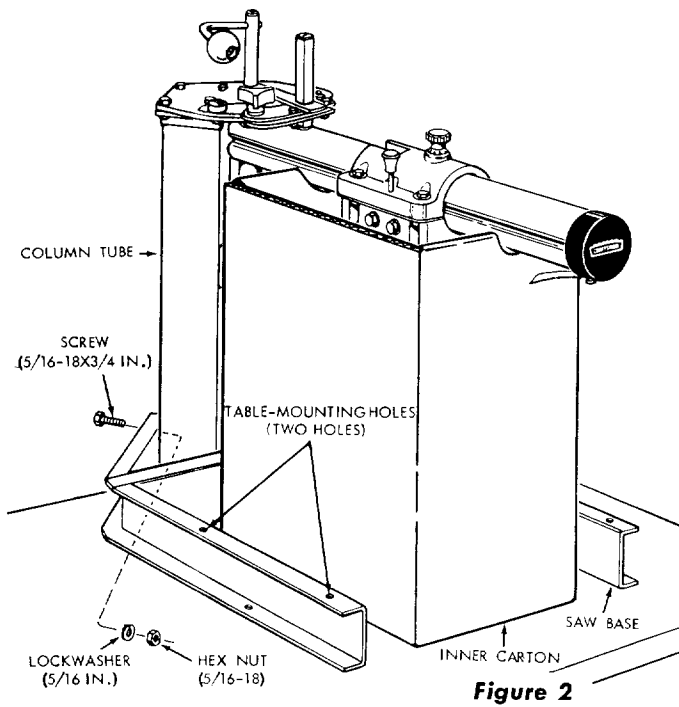

Figure 2
a. Set the saw base on a work bench or table, leaving the rear of base extending out over the edge of the bench. (See figure 2.) Make sure the base is positioned so the two front table attaching holes are up, as shown in figure 2.
b. Set the basic saw assembly, **with inner carton still in place** on the bench (or table) and slide the column tube just inside the rear triangular portion of the base. (See figure 2.) The inner carton will serve as a support while attaching the column tube to the base.
c. Insert six 5/16-18 x 3/4-inch hex-head screws (figure 2) through matching holes in the base and column tube. (Two of these screws must pass through the welded reinforcement at rear of base.) Then, install six 5/16-inch lockwashers and six 5/16-18 hex nuts. Tighten all nuts firmly.